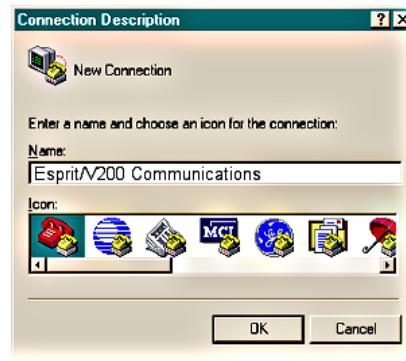

Figure 7-6: Entering a Name for the Connection to the Ventilator
4. Enter a name for the connection (*Esprit/Respironics V200 Communications* is entered in Figure 7-6) choose an icon, and then click **OK**.